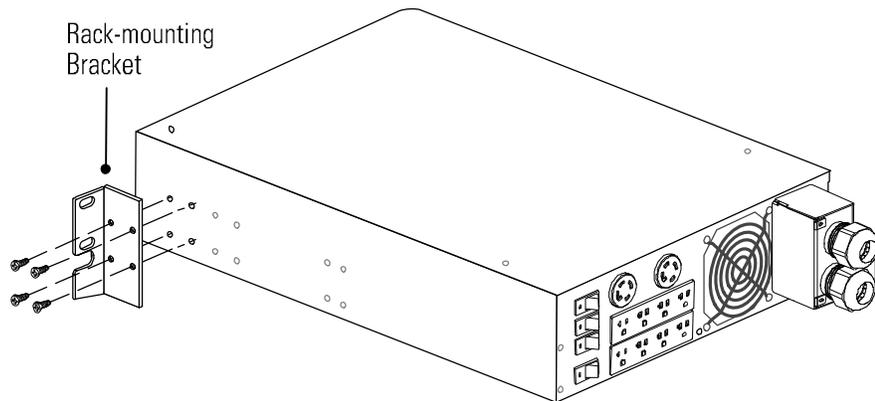

Figure 4. Installing Mounting Brackets
- 3.** Align the mounting brackets with the screw holes on the side of the cabinet. Install the mounting brackets (see Figure 4).